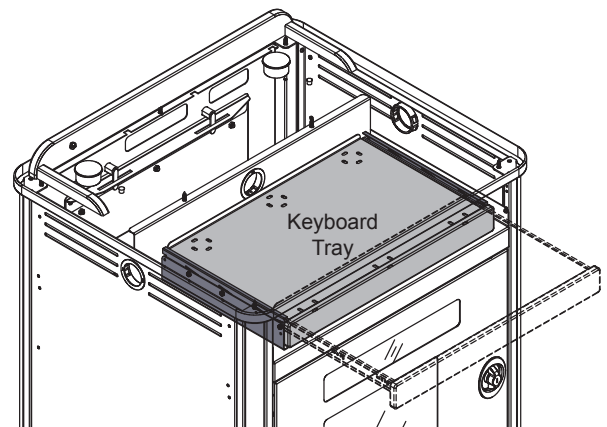

Figure 5
1. To flip, pull out the tray and locate the black plastic lever on each side. **Figure 5.**